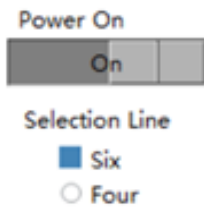
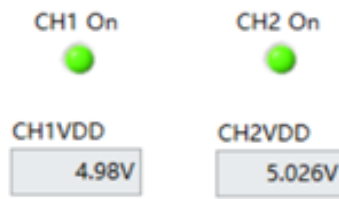

Figure 5.1.6 Powered on successfully
Figure 5.1.7 Powered on abnormally
- Click the button below "Power on" to power on the chip. When the chip is successfully powered on, the power indicator is green on (Figure 5.1.6); If the power-on fails, a pop-up window is displayed indicating that the power-on is abnormal (Figure 5.1.7). In this case, check the chip and hardware connections and try again.